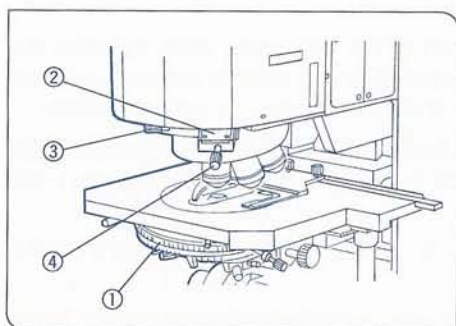
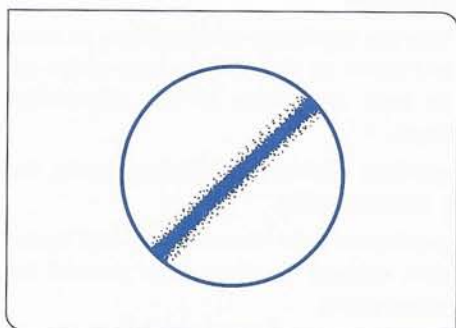
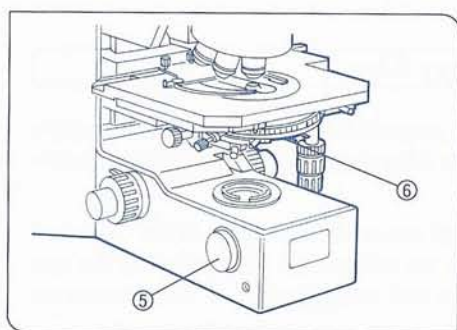

Fig. 57
Fig. 58
Fig. 59
1. Rotate the turret ① to combine the turret position with an interference prism matched with the objective to be used. (Fig. 57)
- a. Engage the transmitted light DIC slider (U-DICT) into the light path ② and tighten the clamping screw ③.
- b. Turn the turret ① and select the light path for BF brightfield observation (no optical element engaged into the light path).
- c. Rotate the prism control knob ④ of the DIC slider clockwise as far as it will go.
- g. As the polarizer rotation knob is turned while looking at the objective pupil through the centering telescope, a black fringe will appear at a certain position. The polarizer should be rotated to the position where this black fringe is darkest. (Fig. 58)
6. Adjust the field iris diaphragm ring ⑤ until the diaphragm image circumscribes the field of view.
7. Stopping down the aperture iris diaphragm, using the lever ⑥, may increase the contrast somewhat. (Fig. 59)